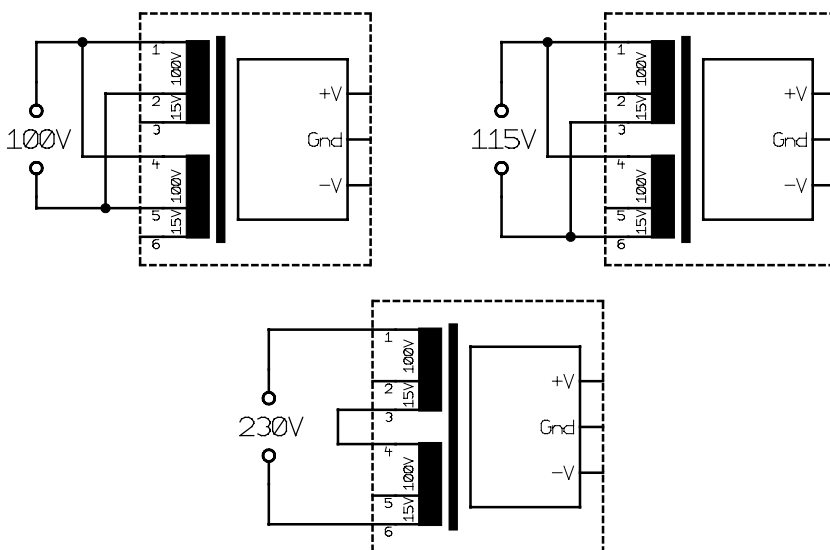
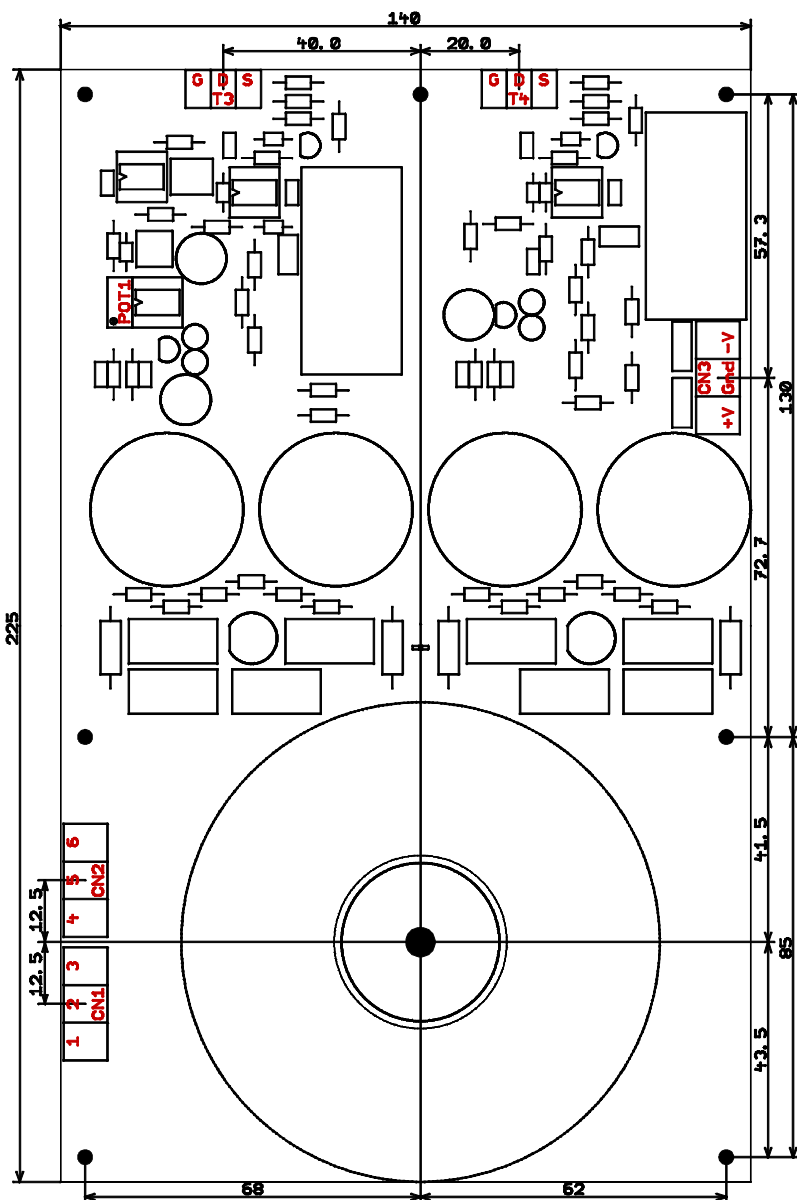
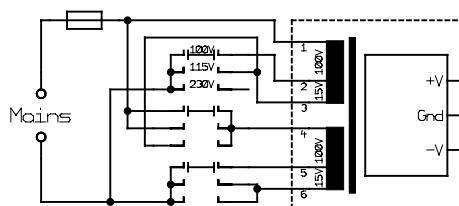
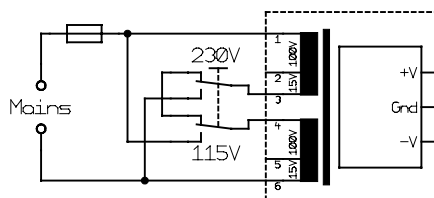

Fig. 1. Connecting modules of the OF-PSU-B series to the local line voltage.
Fig. 2. Connectors and dimensions of the OF-PSU-B modules.
Fig. 19. Switching the nominal value of the line voltage with a voltage selector.
Fig. 20. Switching the nominal value of the line voltage between 115 V and 230 V (USA/Europe) with a voltage selector.
| Fig. 1. Connecting modules of the OF-PSU-B series to thelocal line voltage.....           | 6         |
| Fig. 2. Connectors and dimensions of the OF-PSU-Bmodules.....                             | 7         |
- spacing between the mounting holes: see Fig. 2
Modules of the OF-PSU-B series are equipped with 9 input and output terminals in the form of three clamps (see Fig. 2). The six input terminals (clamps CN1 and CN2) allow setting the device to operation at 100 V, 115 V, or 230 V (see Fig. 1). The stabilized output voltage is connected to the clamp CN3.
Modules of the OF-PSU-B series may be used only with an external heat sink. Before starting up, the module must be mechanically fixed and the power transistors (T3 and T4 in Fig. 2) must be mounted onto an appropriate heat sink with the parts provided with the module. The heat sink must be large enough to be able to dissipate the maximum power loss of the transistor of about 120 W that can occur in the event of a short circuit at both outputs.
Depending on the nominal line voltage, the power cable has to be mounted to the clamps CN1 and CN2 (see Fig. 1). To set the device for the nominal line voltage, a voltage selector can be installed (see Fig. 19 and Fig. 20). Modules of the OF-PSU-B series are intended for use in complex devices and therefore do not themselves contain a line fuse. However, the complete device must be equipped with an appropriate fuse (see Tab. 1).
After switching on the line voltage, the actual output voltage can be set with the potentiometer POT1 (see Fig. 2). During the adjustment, the time constant of the reference circuit of 1.5 seconds must be taken into account. The potentiometer directly controls the positive output voltage; the negative voltage is internally derived from the positive one, and thus does not require any adjustments.
- ! **Caution:** Only schooled personnel may work with this device without a grounded housing. Setting the output voltage (POT1 in Fig. 2) may only be done with insulated tools. There may be high voltage remaining on the capacitors several minutes after the module is shut down.